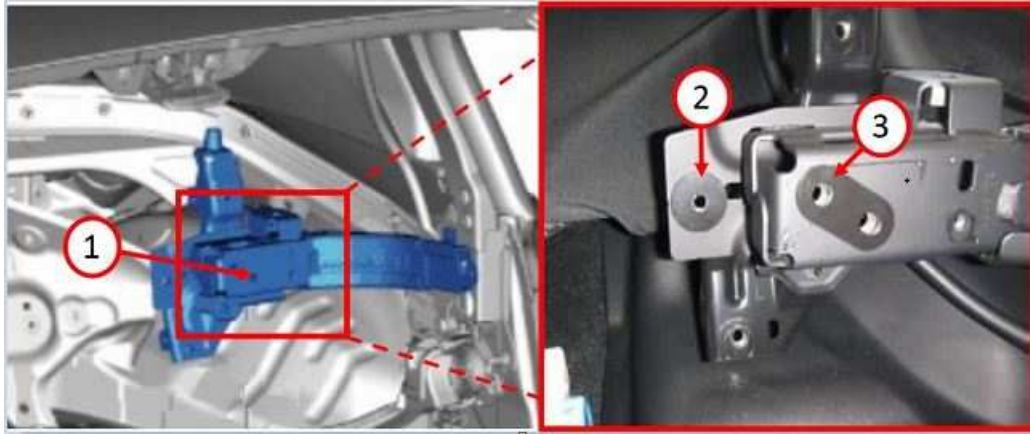

Fig. 7
11. Affix the washers to the surface of the link bracket by using adhesive (Fig. 7) .